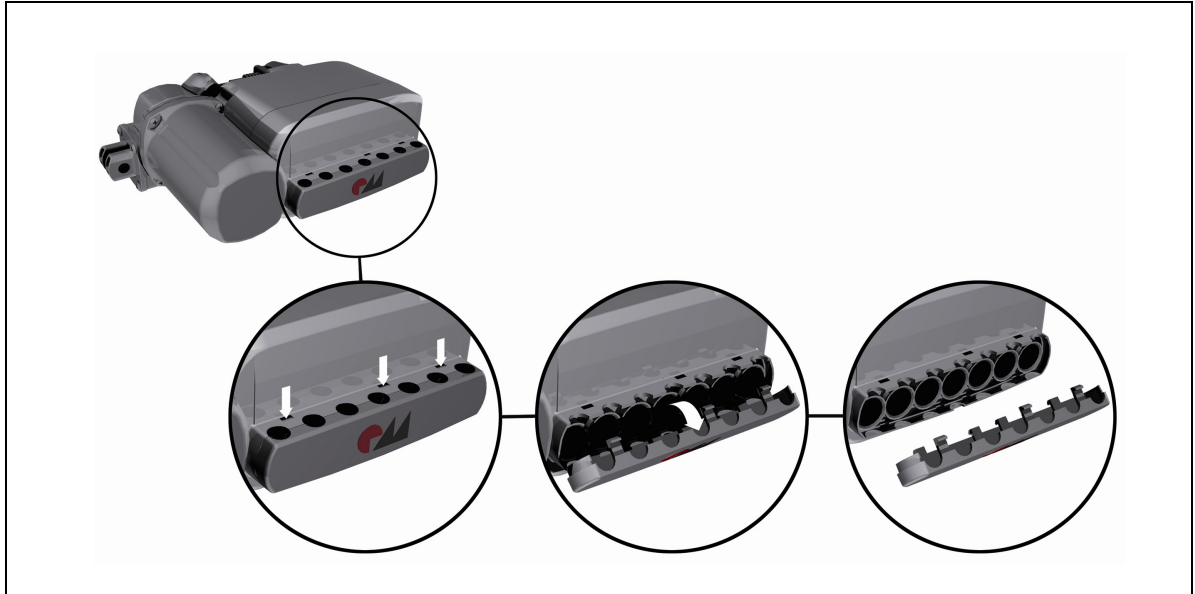

Figure 10 Opening the shield cover on the MC11 control unit
- 2 Use a suitable tool to press the three locking clips down in the notches as shown in Figure 10. At the same time, tilt the shield cover forward so that the clips come out of the notches.
- 2 Open and remove the shield cover (refer to Figure 10).
- 2 Use a suitable tool to press the three locking clips down into the notches as shown in Figure 10. At the same time, tilt the shield cover forward so that the clips come out of the notches.